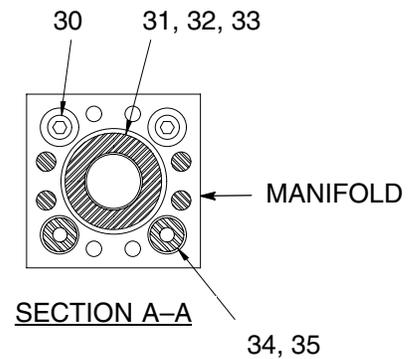

Fig. 11
**NOTE:** Pipe plug (30), material valve connector (31), backup rings (32), o-rings (33), two conditioning fluid connectors (34), and four o-rings (35) are part of the manifold assembly. See Fig. 11.